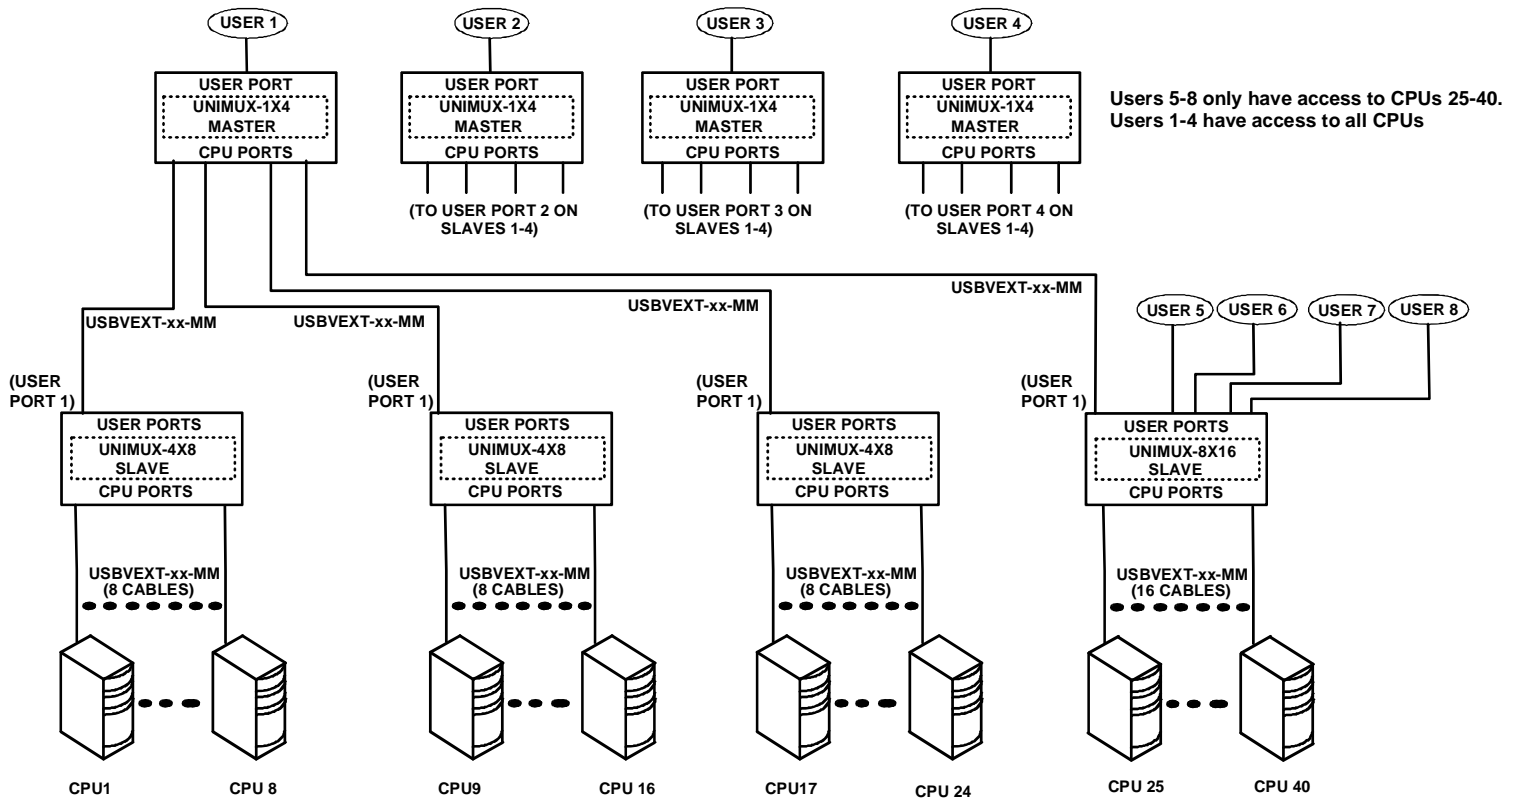

Figure 37- Cascaded configuration with single-user masters
**Exception: If the master is a single user UNIMUX switch, slaves connected downstream can be any size multi-user UNIMUX switch (see Figure 37).**
Repeat this procedure for each USER and MONITOR port on the slave that is desired to be controlled through the master. Any USER and MONITOR ports that do not get connected to the master can be connected to by users. Users connected to a slave downstream from the master will control only the CPUs directly connected to that slave switch (i.e. users 5 and 6 in Figure 37 can only control CPUs 25-40).